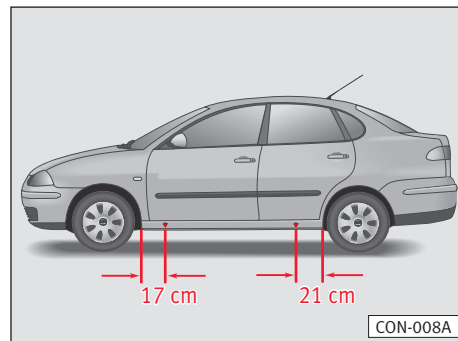

Fig. 138
– The jack should be placed at some 17 cm in front and approximately 21 cm away at the rear from the corresponding wheel track ⇒ fig. 138.